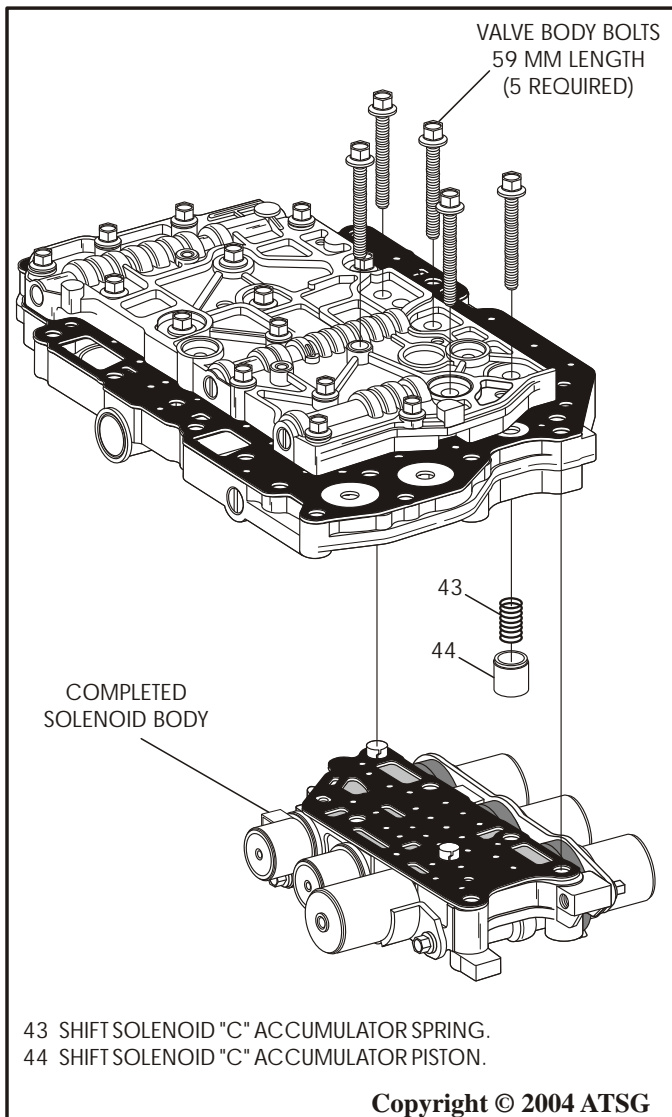

Figure 108
15. Install shift solenoid "C" accumulator spring and piston into lower valve body, as shown in Figure 108.
16. Place the completed solenoid body with gasket into the lower valve body dowel pin holes, as shown in Figure 108.
17. Install 5 solenoid body bolts 59 mm length, in the positions shown in Figure 108, and finger tighten at this time.